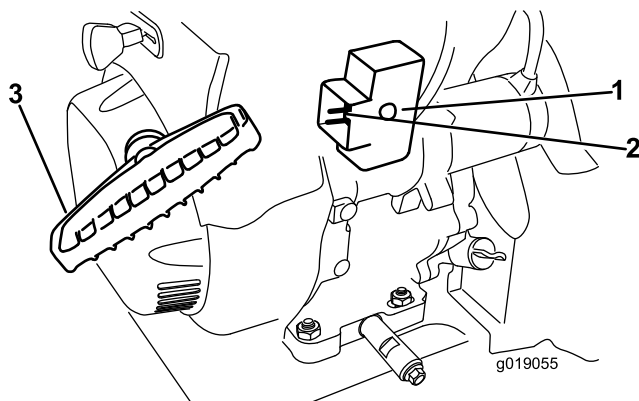

Figure 21
7. Start the machine by pulling the recoil starter or pressing the electric-starter button (Figure 21).